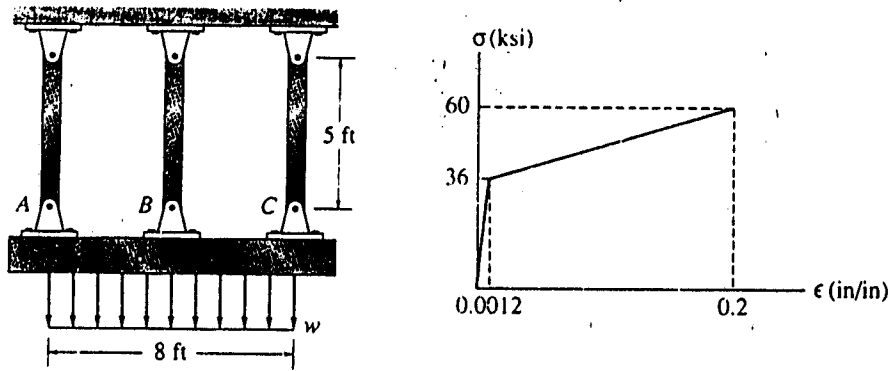

Fig. 1
1. (20pts) The distributed loading is applied to the rigid beam, which is supported by the three bars. Each bar has a cross-sectional area of a 1.25 in^2 and is made from a material having a stress-strain diagram that can be approximated by the two line segments shown in Fig. 1. If a load of $w = 25 \text{ kip/ft}$ is applied to the bar, determine the stress in each bar and the vertical displacement of the rigid beam.